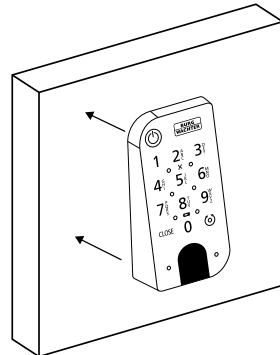

Fig. 115
- 3 Mount the keypad on the wall in the desired position (Fig. 115).